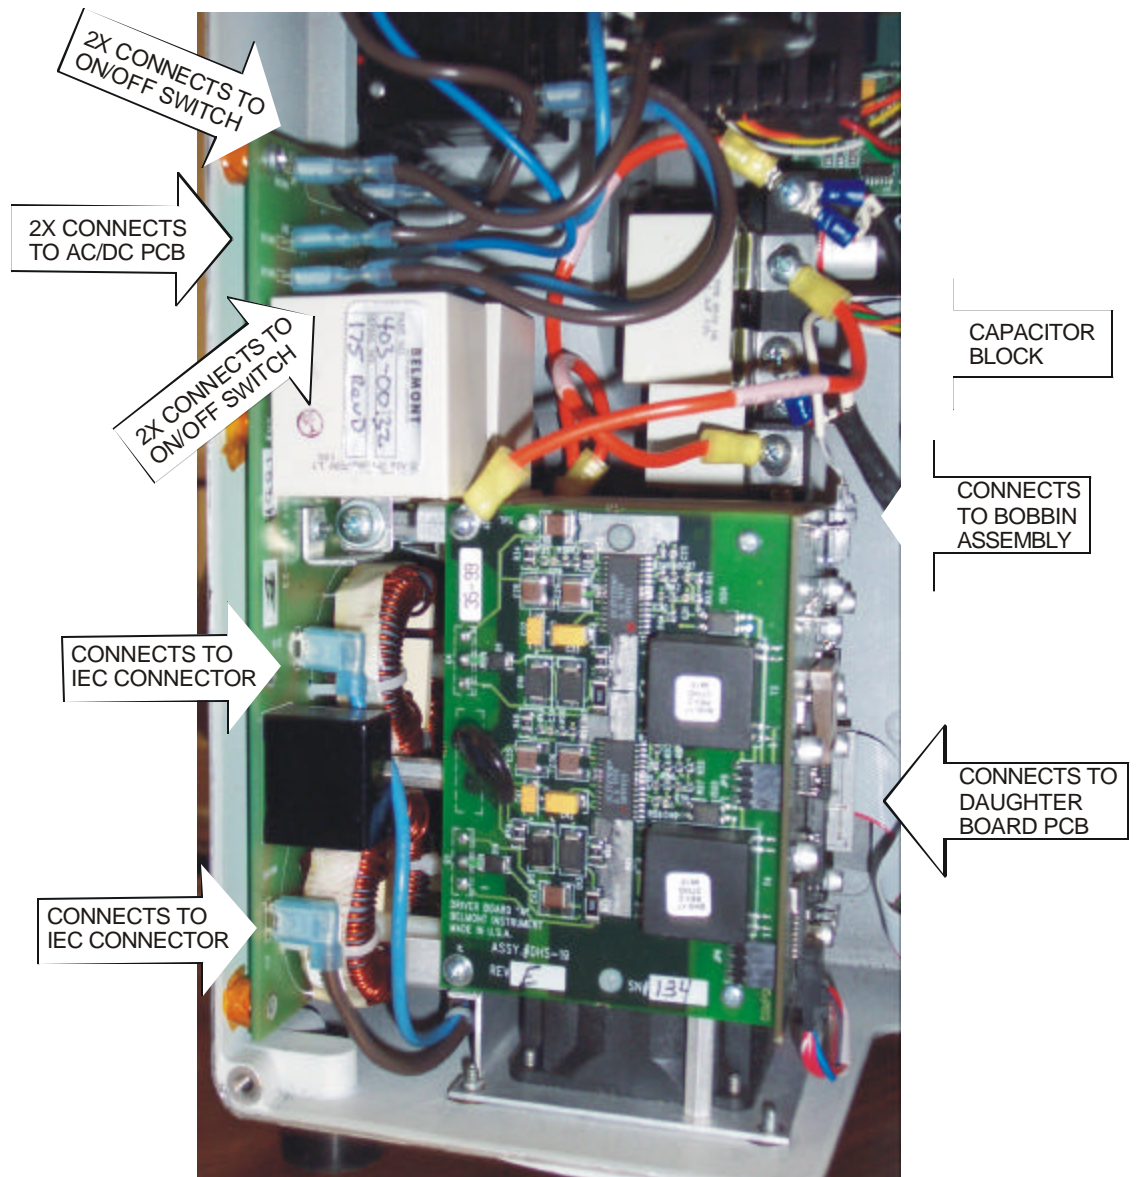

Figure 8: Power Module Assembly
4. Remove 3, 10-32 x 1/2 pan head Phillips screws, lugs and flat washers from Capacitor Block. Figure 8.
7. Reattach 3X pan head Phillips screws, lugs and flat washers to Capacitor Block. Figure 8.
9. Reattach all lugs. Figure 8.